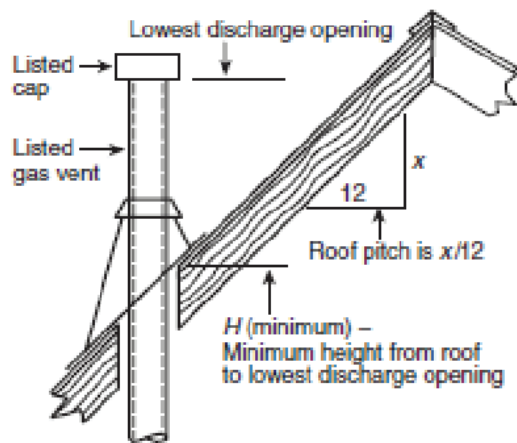

Figure 12. Roof Slope and Pitch
- a. For double-wall vent pipe and a horizontal distance to any vertical wall or similar obstruction of 8 feet or greater, the vent must terminate above the roof in accordance with Figure 12 and Table 11.
*See Figure 12. Termination locations for gas vents with listed caps 12 inches (300 mm) or less in size at least 8 inches (2.4 meters) from a vertical wall.